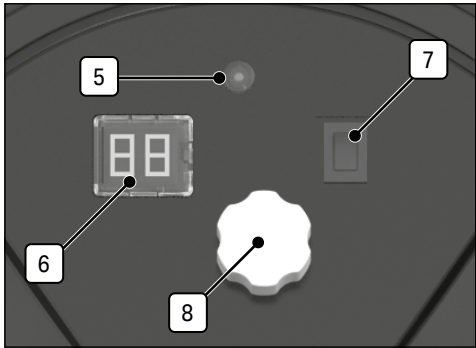

Fig. 6
8.1 Switching the Heater On (Fig.6)